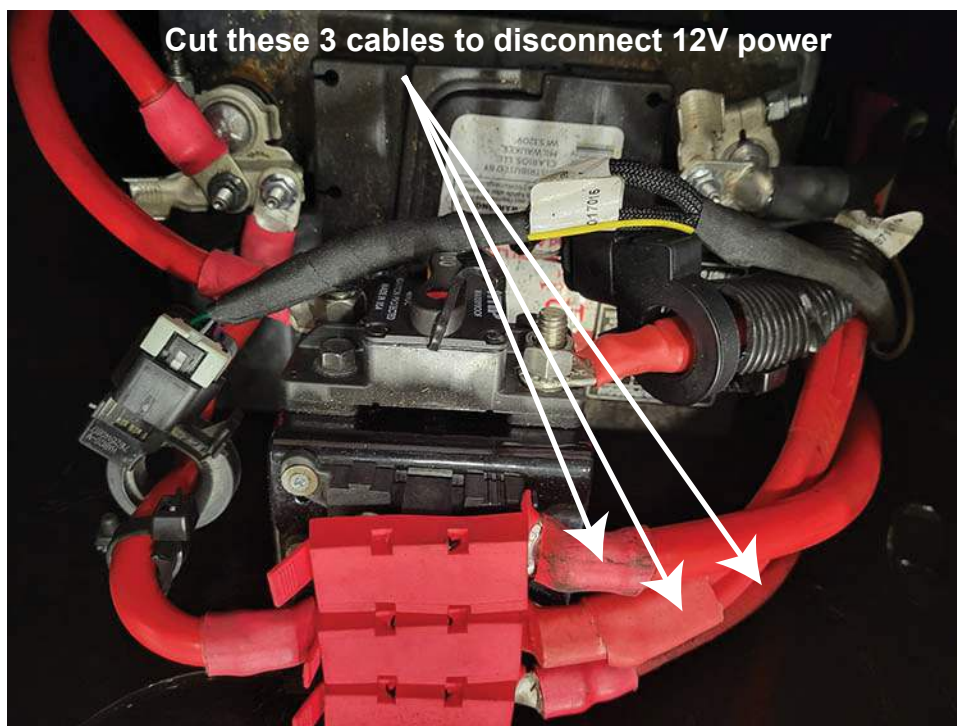

Figure 8
4. If access to the battery terminals is not possible, cut the three 12V cables in the location shown in Figure 8.